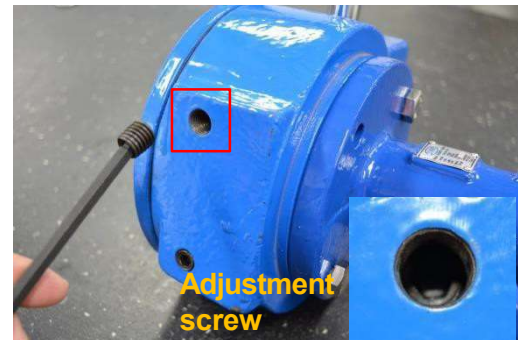

Figure 3
- Remove the outer set screws to access the adjustment screws (See Figure 3)